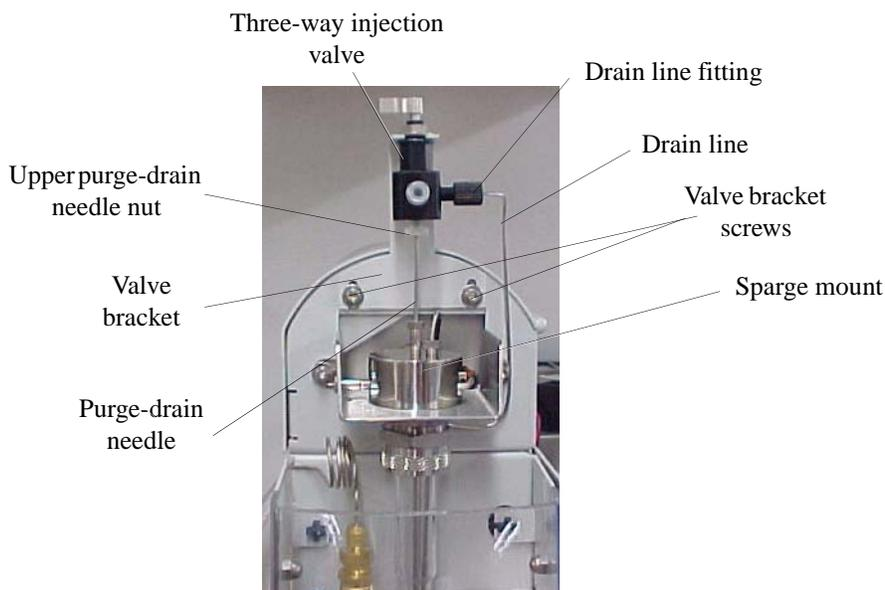

Figure 3.3. Removing the three-way injection valve
3. Disconnect the drain line from the three-way injection valve by loosening the Cheminert® ¼–28 drain line fitting (Figure 3.3).